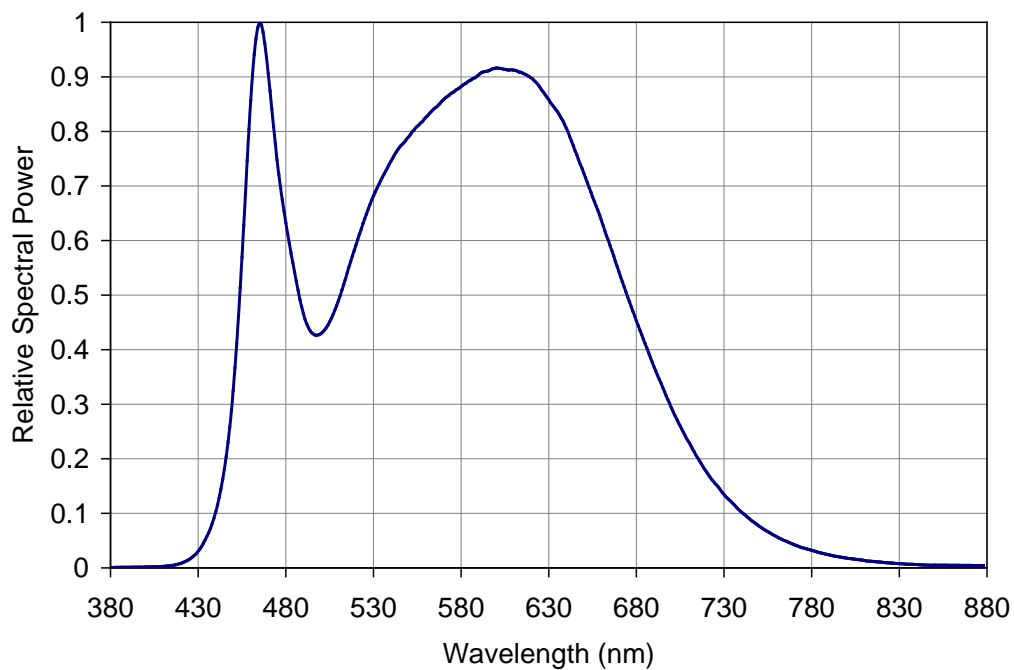

Figure 5: Relative spectral power vs. wavelength @ $T_C = 25^\circ\text{C}$.
- Solder conditions per JEDEC 020D. See Reflow Soldering Profile Figure 5.